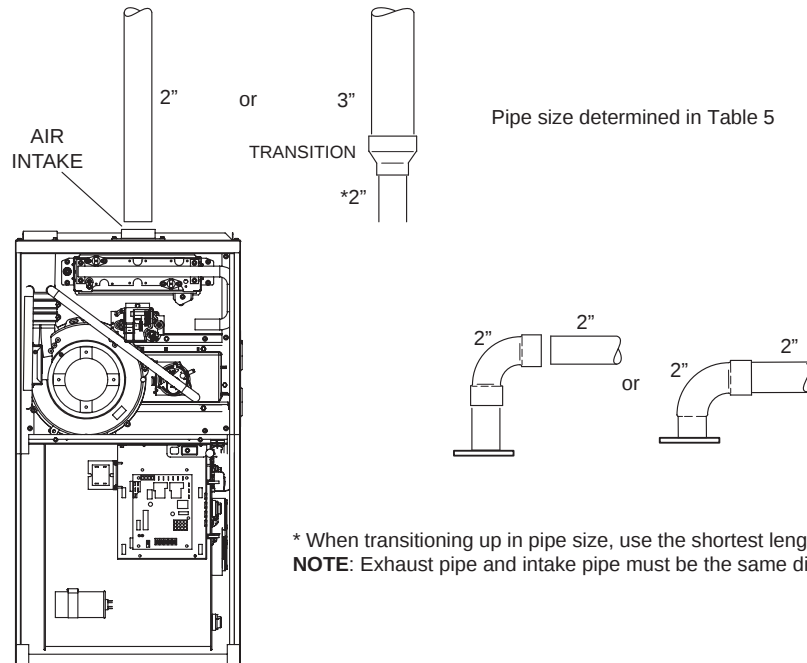

Figure 17. Typical Air Intake Pipe Connections in Upflow Direct Vent Applications
1. Use field-provided materials and the factory-provided air intake screen to route the intake piping as shown in Figure 17 or Figure 18. Maintain a minimum clearance of 3" (76mm) around the air intake opening. The air intake opening (with the protective screen) should always be directed forward or to either side in the upflow position, and either straight out or downward in the horizontal position.